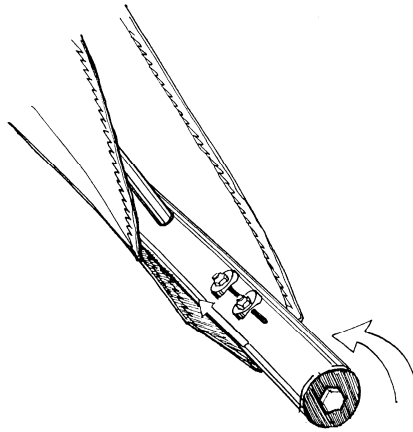

Fig.3
2.1.5. Rotate the bolt which is on the axle of the leading edge tube until the bolts $d=6\text{mm}$ are positioned in the slot, closest to the nose of the wing. (Fig.3).